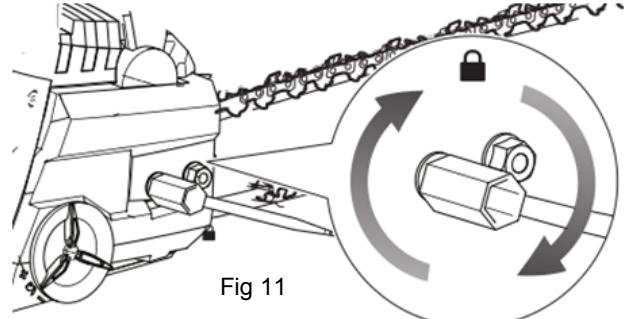

Fig 11
- Replace the chain cover and bar mounting nuts. Finger-tighten the bar mounting nuts. The bar must be free to move for tension adjustment. (Fig 11)